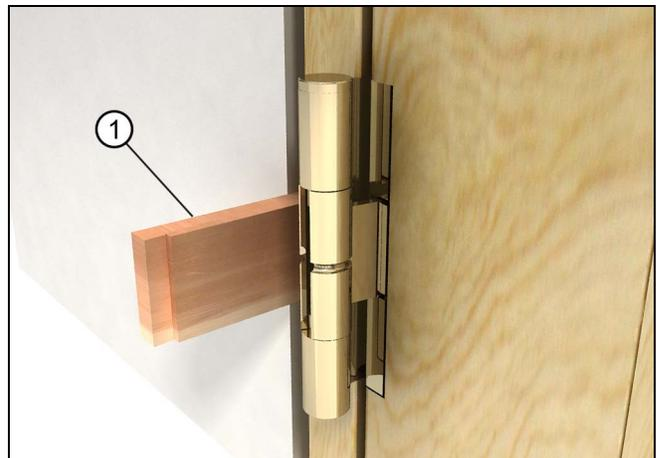

Figure 15
7. For Swinging Doors: Place a shim at each hinge and on each side of jamb and head jamb strike plates. Place additional shims a maximum of 12" (305) apart. Be careful not to bow the jambs. See Figure 15.